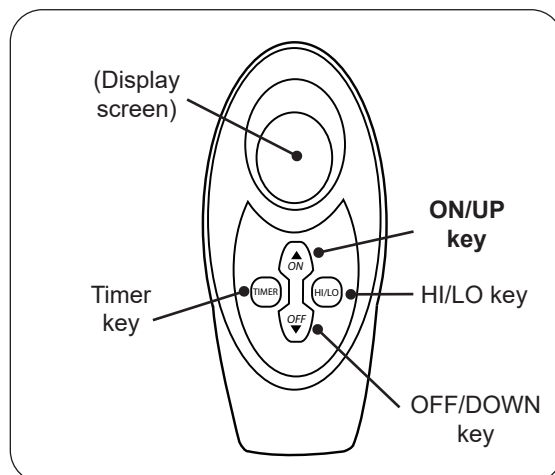

Fig. 12-2 Remote transmitter detail
2. Locate the remote transmitter and press the **ON** key (see Fig. 12-2). The ignition sequence will begin.